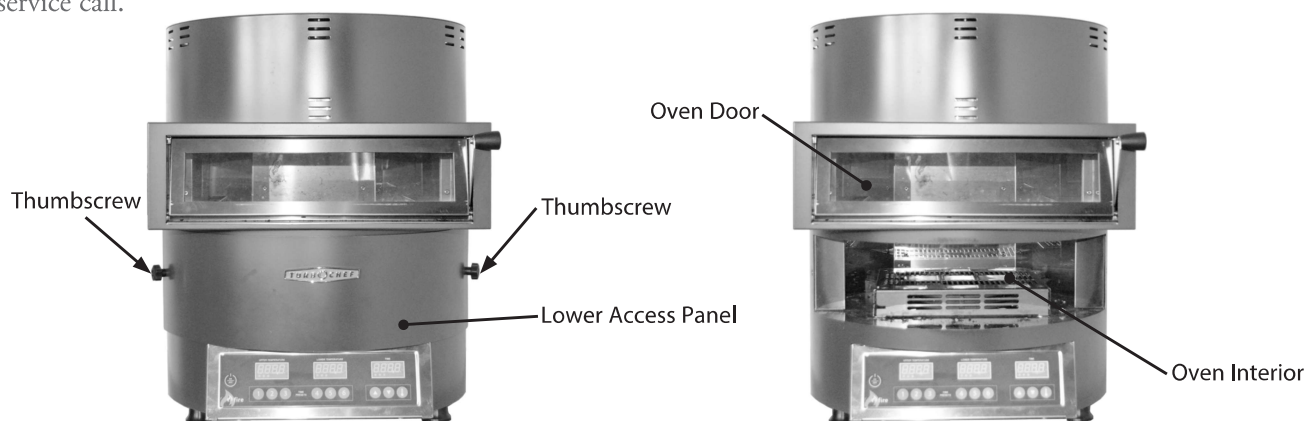

Figure 6: Maintenance
5. Ensure the lower access panel is properly installed (thumbscrews are tight), refer to Figure 6, Page 5 for illustration.
- Remove the lower access panel by removing the two thumbscrews (see Figure 6, above).